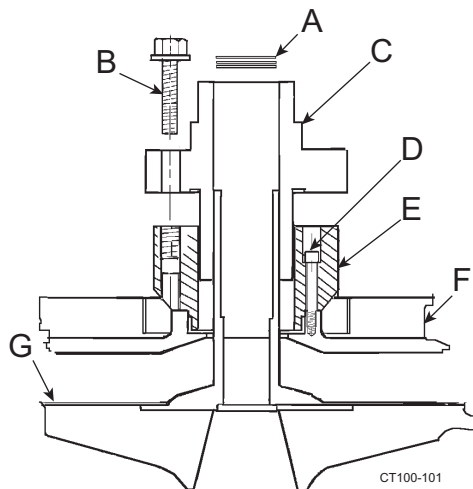
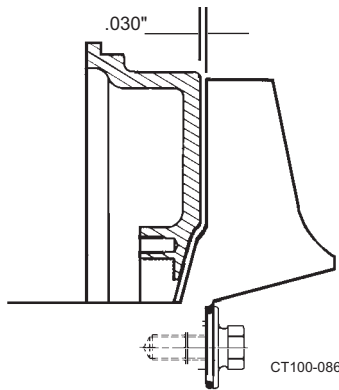

Figure 52 - Remove Seal Assembly.
Figure 53 - Clearance Between Impeller and Backplate
NOTE: The clearance shims that position the impeller within the casing are at the end of the impeller hub (inside the seal.) Keep the shims together as a set for reassembly (Figure 52).
5. Remove the cap screws (Figure 52, item B) holding the cartridge seal to the seal adapter (Figure 52, items C and E).
7. Pull the seal from the seal adapter. (Figure 52, items C and E)
8. Remove the seal adapter by removing the socket head cap screws (Figure 52, item D) holding the adapter to the backplate.
2. Check the impeller/backplate clearance with the backplate held firmly in position against the motor adapter. Check the space between the back of the impeller and the backplate with a feeler gauge (0.030" nominal) while holding the backplate tight against the bearing housing flange. Any axial movement of the shaft should not be added to the 0.030" nominal clearance (Figure 53). If needed, change this clearance by adding or removing shims. Shims (Figure 52, item A) are added on the drive shaft behind the impeller shaft (Figure 52, item G).